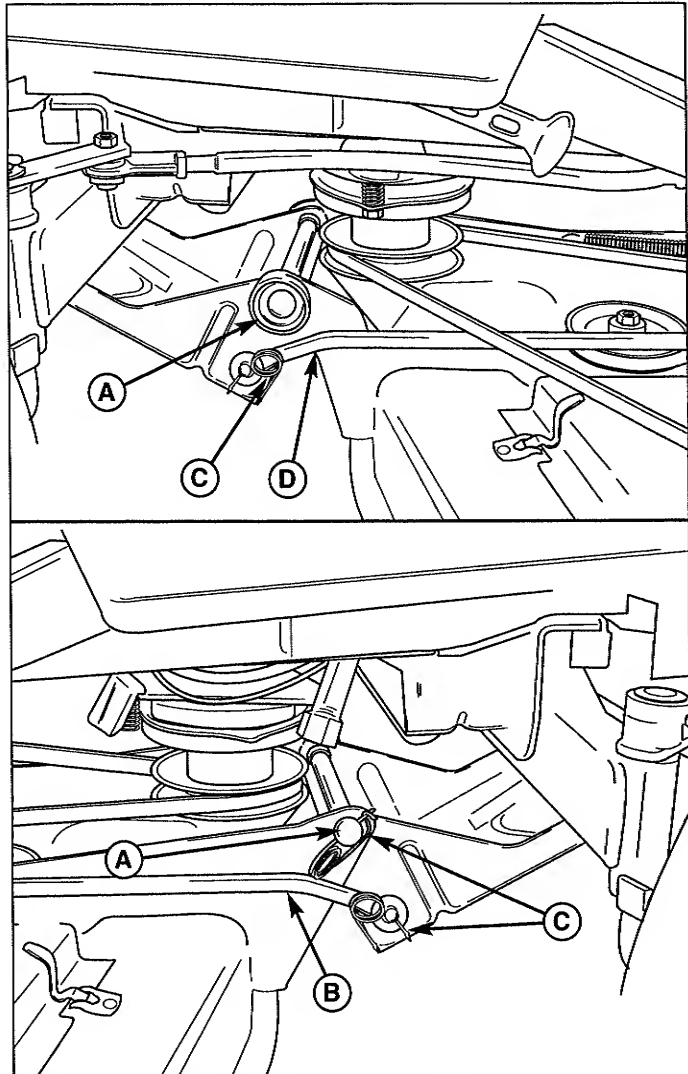

Figure 15. Hitch Hardware - 54" Models Only
3. After sliding the mower under the tractor, install the hitch rod (A, Figure 15) and leveling rods (B, D). Secure with washers and clips (C).